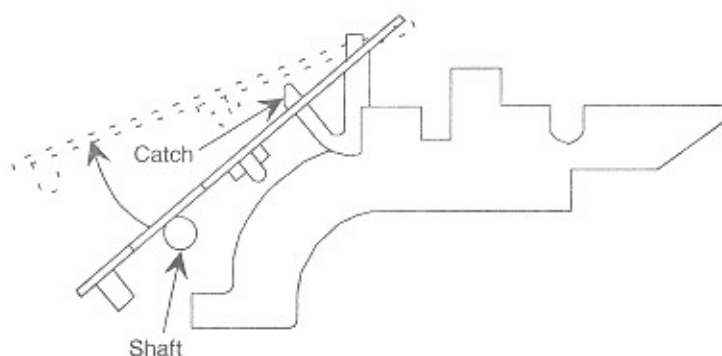

Figure 4-9. Removing the Cell Assembly
2. Unhook the circuit board by pushing back on the catch (see *Figure 4-9*), then remove the board.
The plastic circuit board catch, shown in *Figure 4-9*, can be damaged very easily if it is allowed to push its way through the circuit board. Always pull the catch tip to the right so that the catch will pass through the circuit board without damaging the catch tip.